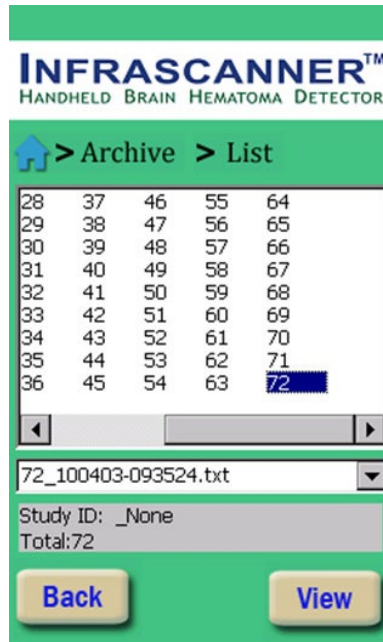

Figure 3-13: List of Measurements
3. In the list of all the measurements select the required serial number of the measurement and click on “View” button, as shown in Figure 3-13.